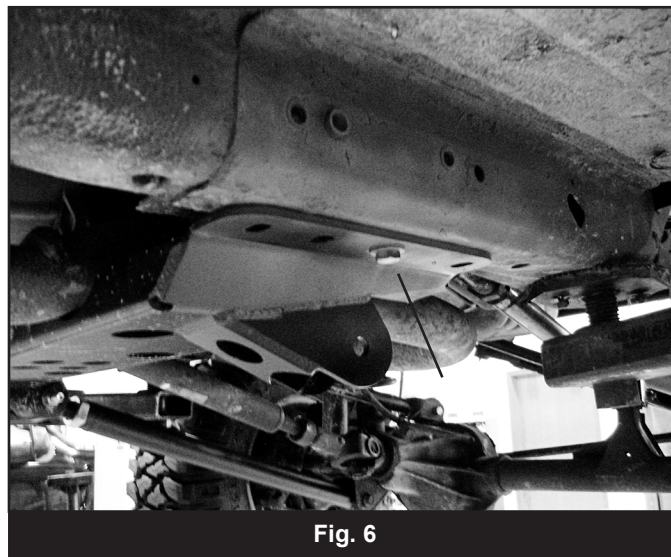

Fig. 6
13. With the help of an assistant, place the crossmember (01370) up to the uni-body and align the front threaded hole in the body with the front mounting hole in the crossmember. Loosely attach the crossmember to the frame with a 10mm x 30mm bolt and 3/8" USS washer (BP 715) in the second hole from the front of the crossmember on each side of the vehicle (Fig 6).